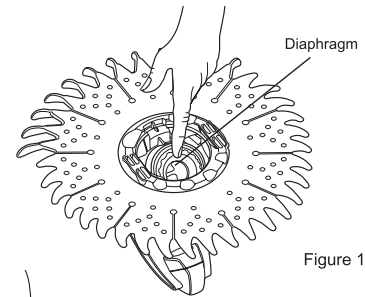

Figure 1
1. Turn cleaner over (see Figure 1).